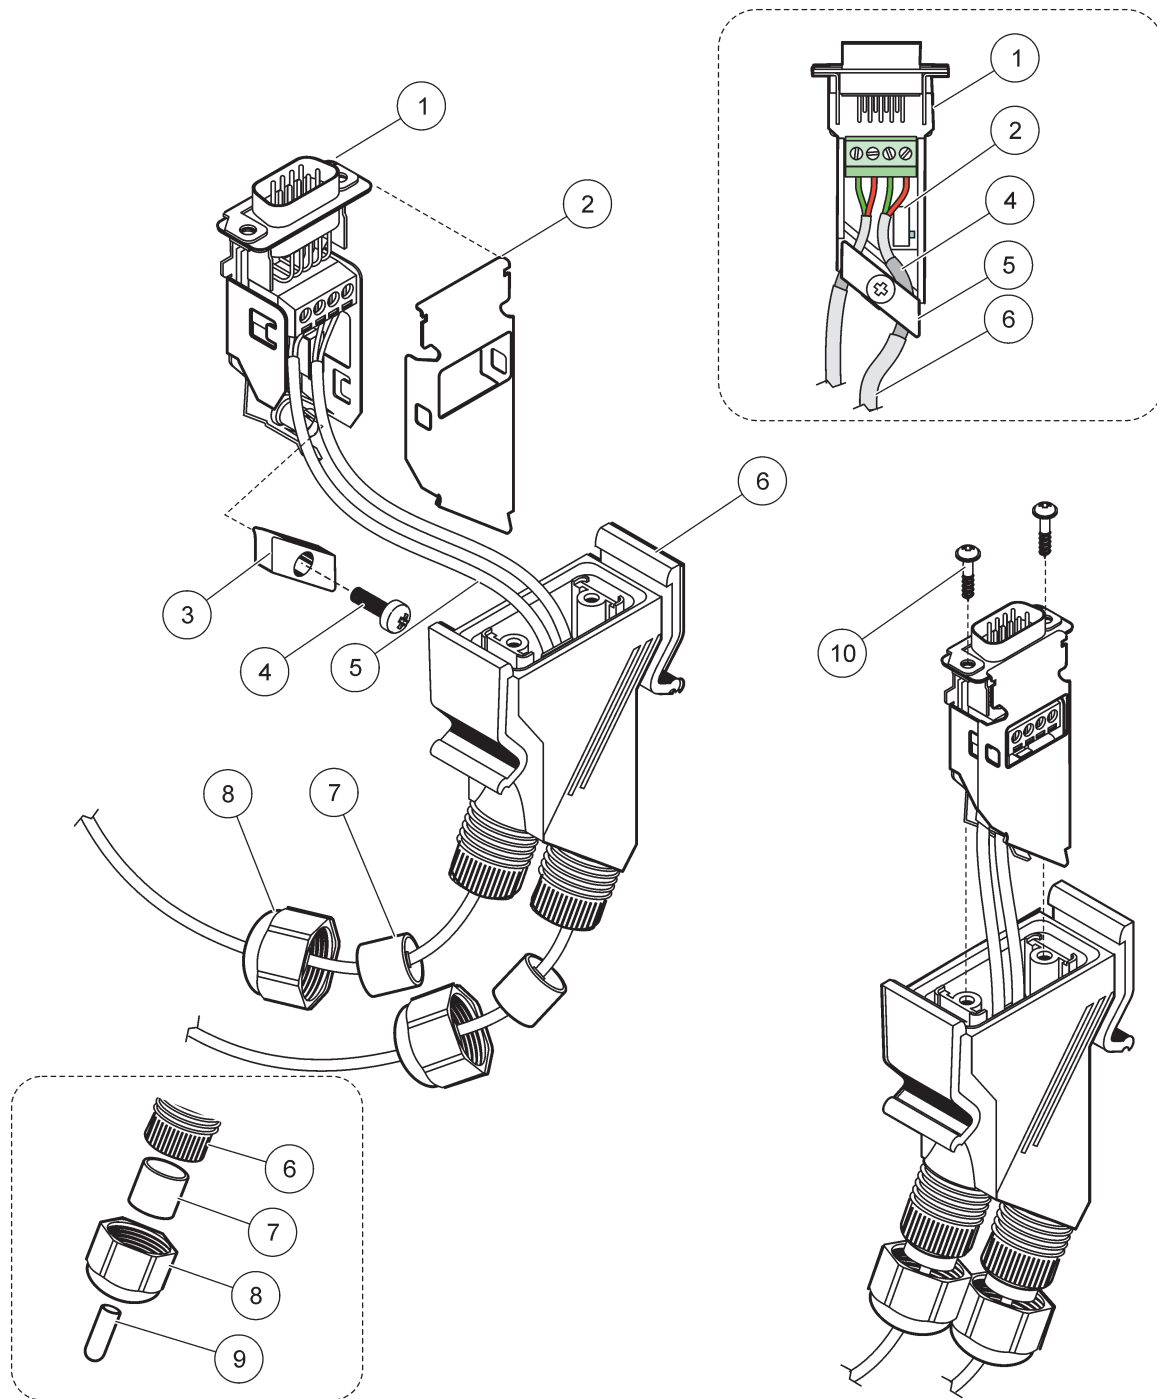

Figure 31 Connecting the network connector to the SC1000 network terminating resistor
2. Feed the cable through the union nut, rubber seal, and connector housing (Figure 31).
- Note:** When using the connector with the last module on the network segment, one union nut remains unused. Seal the union nut with the plug supplied. Refer to Figure 31.
² Use this plug if the cord grip is not used, refer to inset in Figure 31.